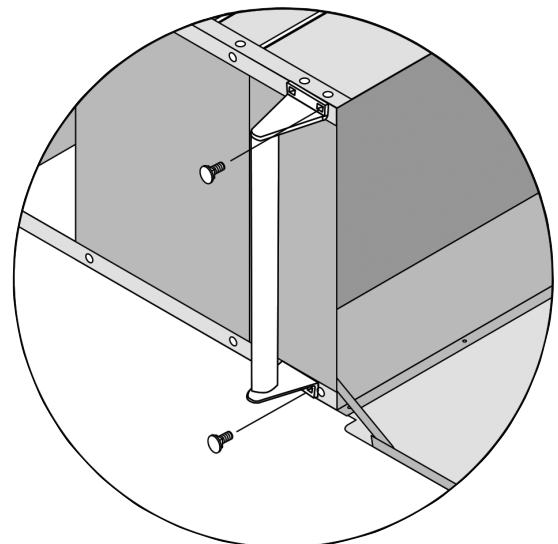

Figure 3
1. Align the other legs with the front corners of the bottom tray and drawer assembly and let them rest on top. See Figure 3.